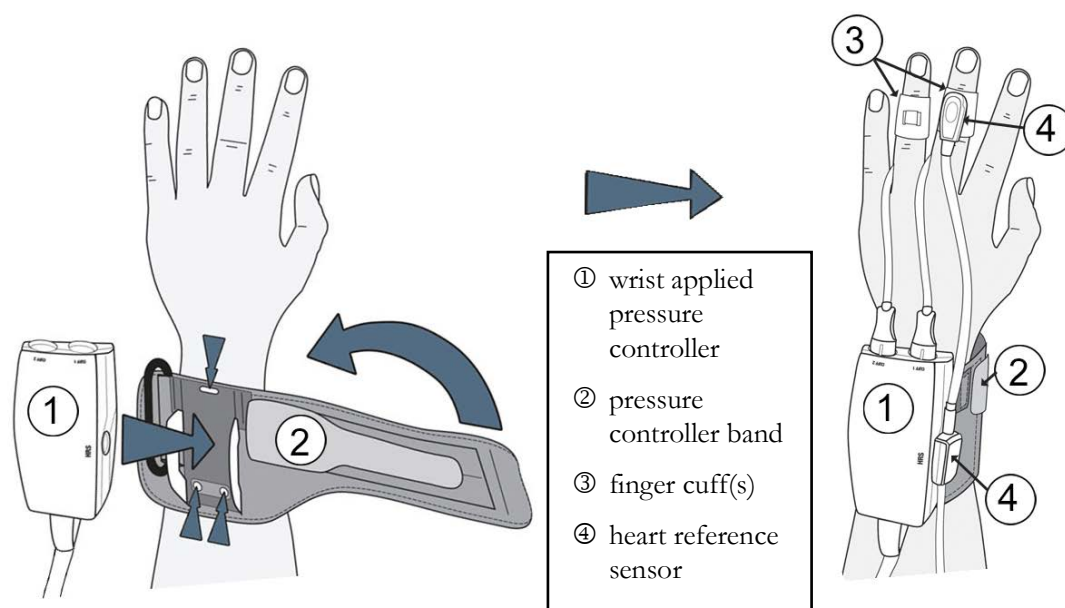

Figure 11-3 Wrist applied pressure controller application
testing to support the safety and performance of the device for its intended use when used in accordance with the established Instructions for Use. The pressure controller is worn on the patient's wrist and connects to the HemoSphere ClearSight module, HRS and finger cuff(s). See figure 11-3.
- 1** Wrap the pressure controller band around the patient's wrist. The non dominant hand is preferred for monitoring in awake patients. (figure 11-3, left)